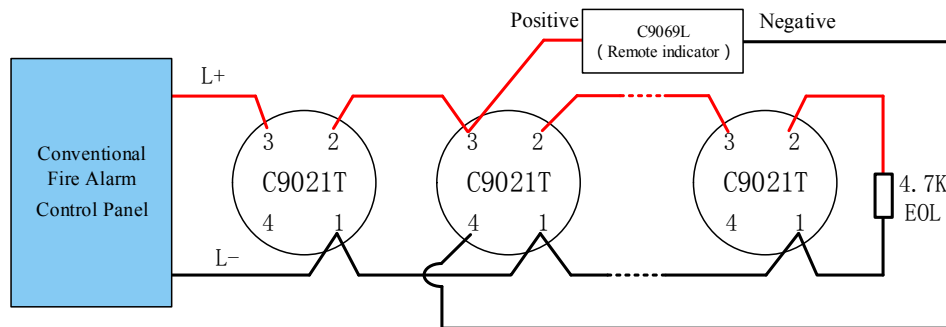

Fig.3
1) Terminal 2 and 3 are connected directly inside the detector. Connecting the detector with the controller as Fig.3, we can find the failures caused by dismounting any detector.
2) When it is necessary to connect a remote indicator, connect from the positive end of the output signal to the positive connector of the remote indicator (C9069L), and the negative connector of the remote indicator (C9069L) to pin 4 (see Figure 3).
(2) Wiring mode 1: Fig.3 is a schematic diagram of the connection between multiple detectors with conventional fire alarm control panel: